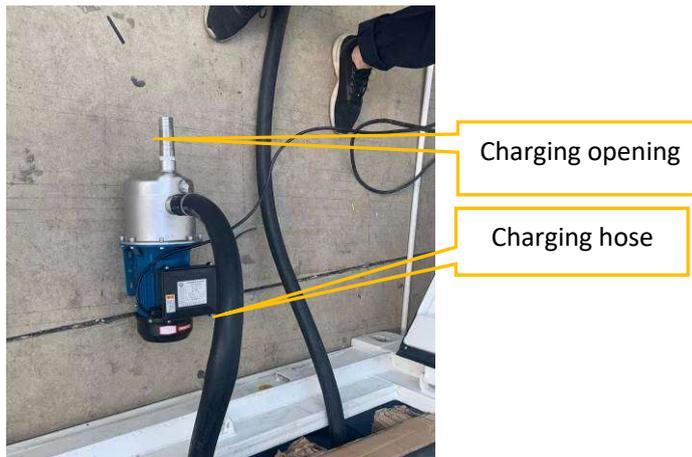

Figure 7-4 Pump station - charging hose
- 1) A self-priming pump must be installed outside the container, The self-priming pump needs to inject liquid into the pump head for the first time. Find the port for coolant charge outside the container (at the side door of the container), plug in the hose, and clean it. External coolant is added into the suction port of the self-priming pump. (see Figure 7-4)